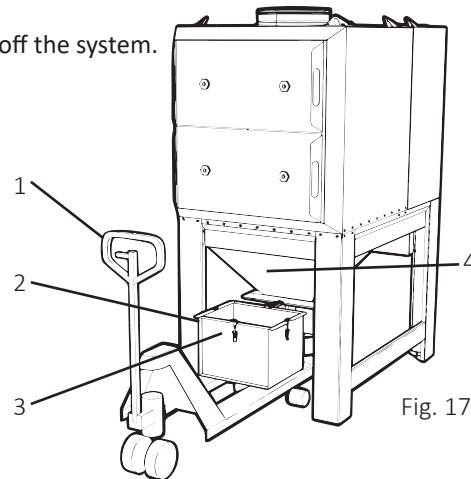

Fig. 17
- Position a suitable pallet lift (1) under the dust collector (2), see Fig. 17.
- Undo the toggle fasteners (3), raise the pallet lift toward the collector and pull out.
- Reposition the dust collector under the straining compartment (4), see Fig. 17.